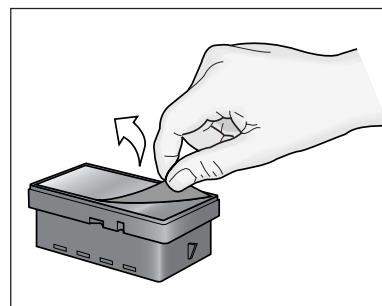

figure 8
- 1 Peel off the protective film from the rubber surface of the stamp (see figure 8).